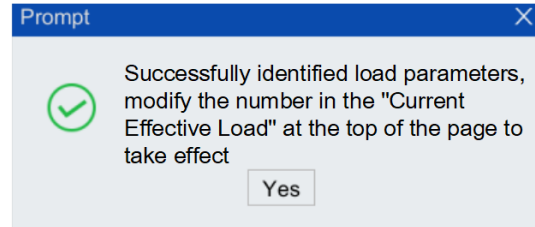

Figure 4-15 Prompt window
Step7. After successful identification, the interface shown in Figure 4-15 will pop up, and click <Yes>.